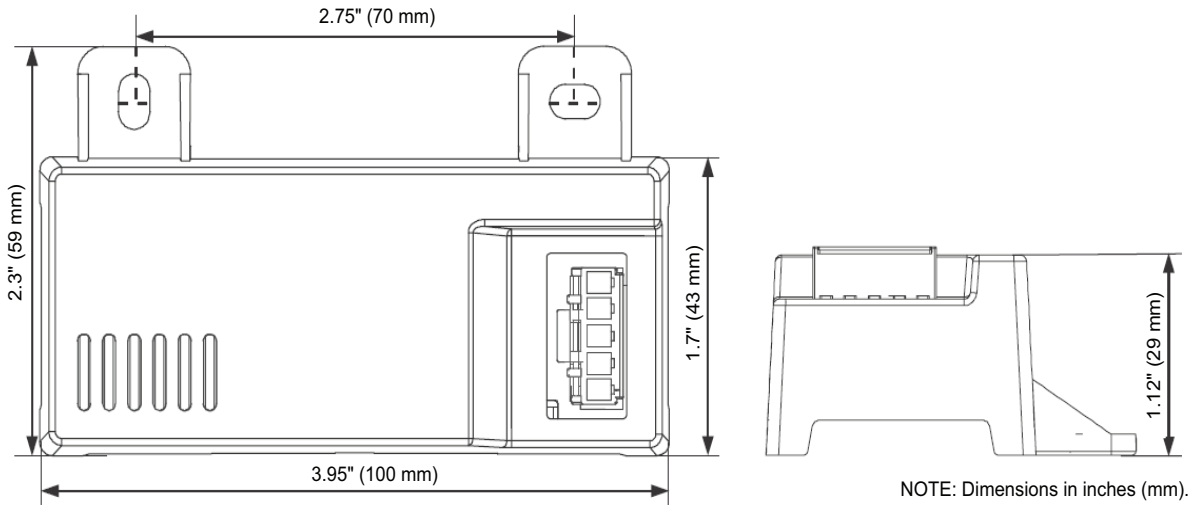
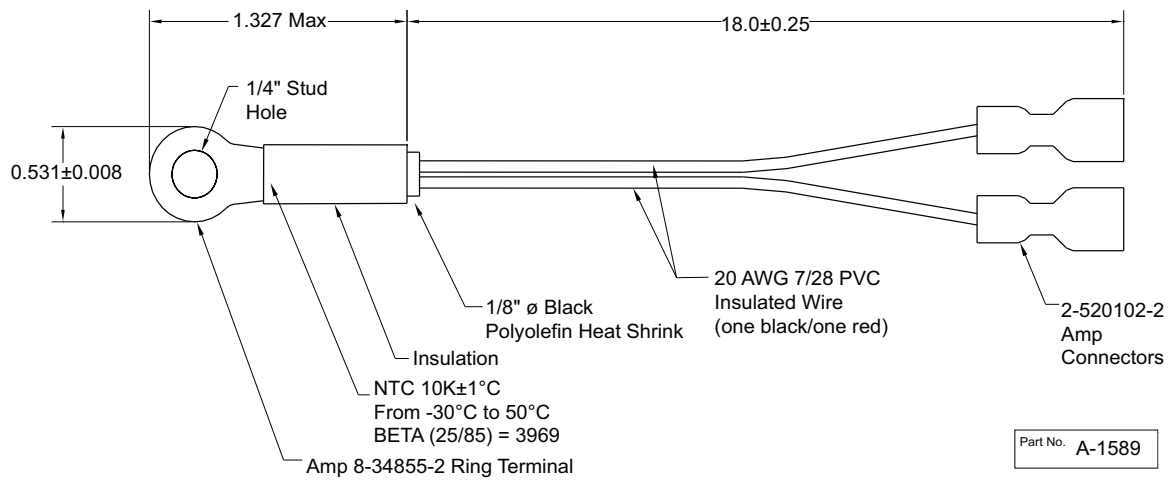
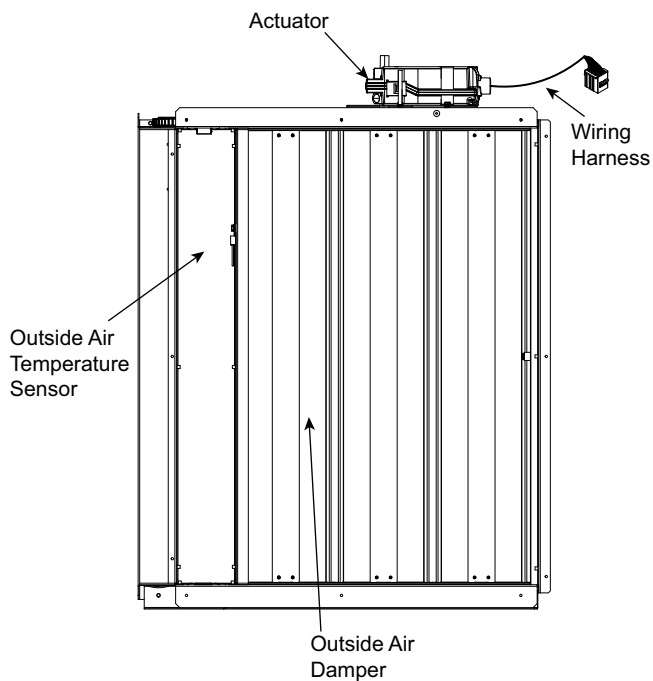

Fig. 65 — HH57LW001 Dimensional, Connection and Switching Information
Fig. 66 — HH79NZ039 Dry Bulb and Mixed Air Sensor Wiring
Fig. 67 — EconomizerONE Component Locations (CRECOMZR108A00 Shown)
When using the HH57LW001 enthalpy sensor (see Fig. 65) for outside air changeover, the existing HH79NZ039 dry bulb sensor (see Fig. 66) must be removed. The enthalpy sensor will be mounted in the same location as the dry bulb sensor (see Fig. 67). When the enthalpy sensor's OA (Outside Air) temperature, enthalpy, and dew point are below their respective setpoints, the outside air can be used for free cooling. When any of these are above the setpoint, free cooling will not be available. Enthalpy setpoints are configurable and create an enthalpy boundary according to the user's input. For additional details, see Fig. 68-69 and Table 28.
The optional enthalpy control sensor (P/N: HH57LW001) communicates with the POL224 economizer controller using the 5-wire harness, 48TC005213. The HH57LW001 sensor can be used as a single outside air enthalpy, a differential return enthalpy, or a differential return temperature sensor. Refer to the base unit control wiring diagrams found earlier in this book to wire the HH57LW001 enthalpy sensor for each option. Use Fig. 65 and Table 30 on page 54 to locate the wiring terminals for each enthalpy control sensor.
Economizers are shipped standard with an HH79NZ039 outside air dry bulb sensor (see Fig. 66). System default setting (high temp limit) is 63°F (17°C) and has a range of 48°F to 80°F (9°C to 27°C). Sensor is factory installed on economizer.
If installing the optional HH57LW001 enthalpy sensor, the HH79NZ039 dry bulb outside air sensor must first be removed. Wire sensor to harness 48TC005213 and the (5) wires from the harness to the EconomizerONE harness in the return air chamber. Harness 48TC005213 has a 5-pin plug that connects directly to the HH57LW001 enthalpy sensor. Refer to the base unit control wiring diagrams earlier in this book for wiring connections. Refer to Fig. 65 and Table 30.